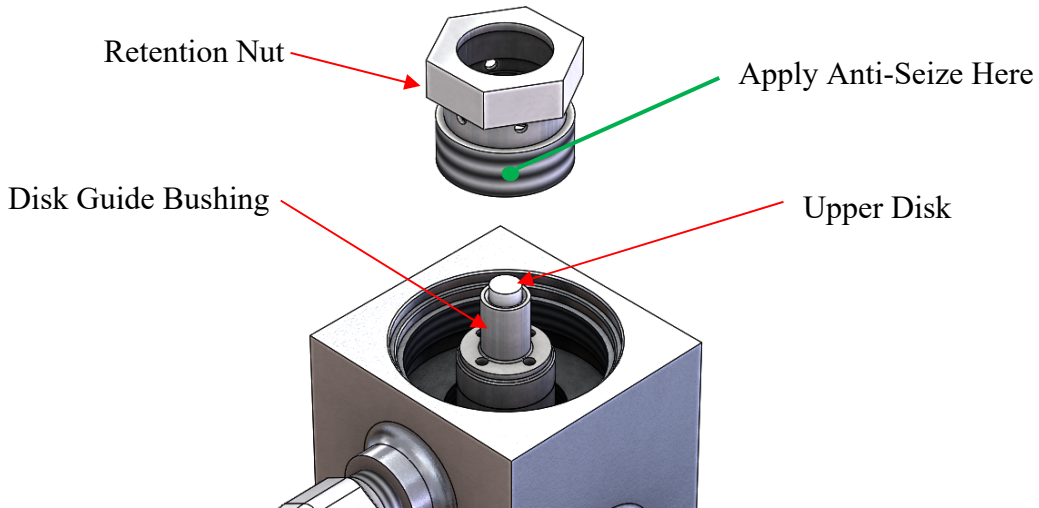

Figure 48: Retention Nut and Upper Seat
- 7. Apply a light anti-seize to the threads of the retention nut. See Figure 48.